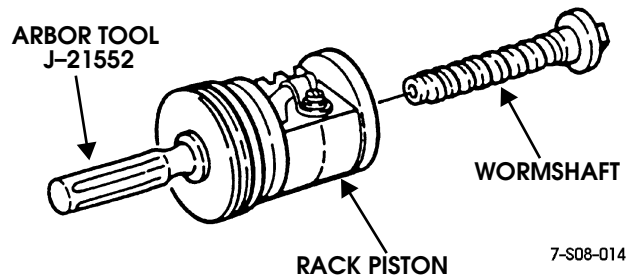

Figure 8-41: Wormshaft Removal
5. Remove wormshaft if it came out of stub shaft (Figure 8-41).
8. Remove bolts attaching recirculating ball guide halves to rack piston, remove guides, and remove bearings from rack piston (Figure 8-41). A total of 24 bearings are used; 12 chrome and 12 black.